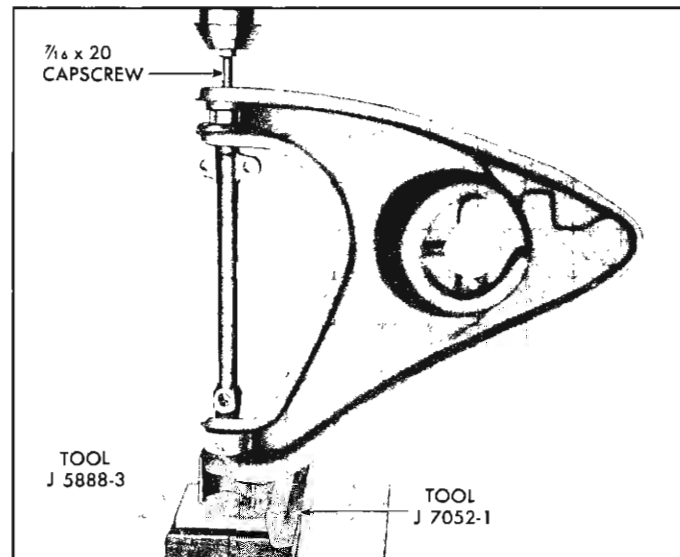

Fig. 20—Removing Lower Control Arm Cross Shaft Bushing
3. Support control arm in an arbor press on Tool J-5888-3, as shown in Figure 20.